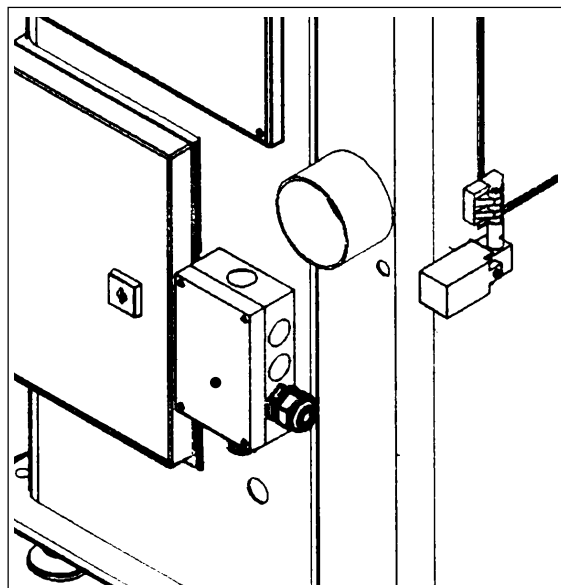

Fig. 3-5 Connector block
3.4 PNEUMATIC CONNECTION (Fig. 3-5)
- Remove the junction box cover **C** Fig. 3-5